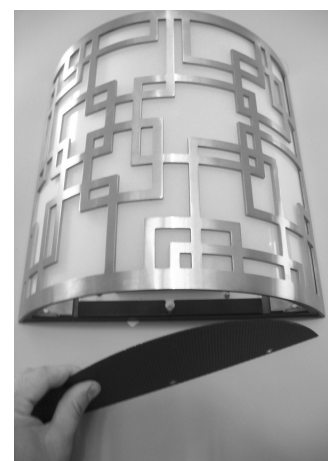

Figure 6
Step 8 Install lower perforated metal diffuser and secure into position with cap head machine screws. (See Figure 6)